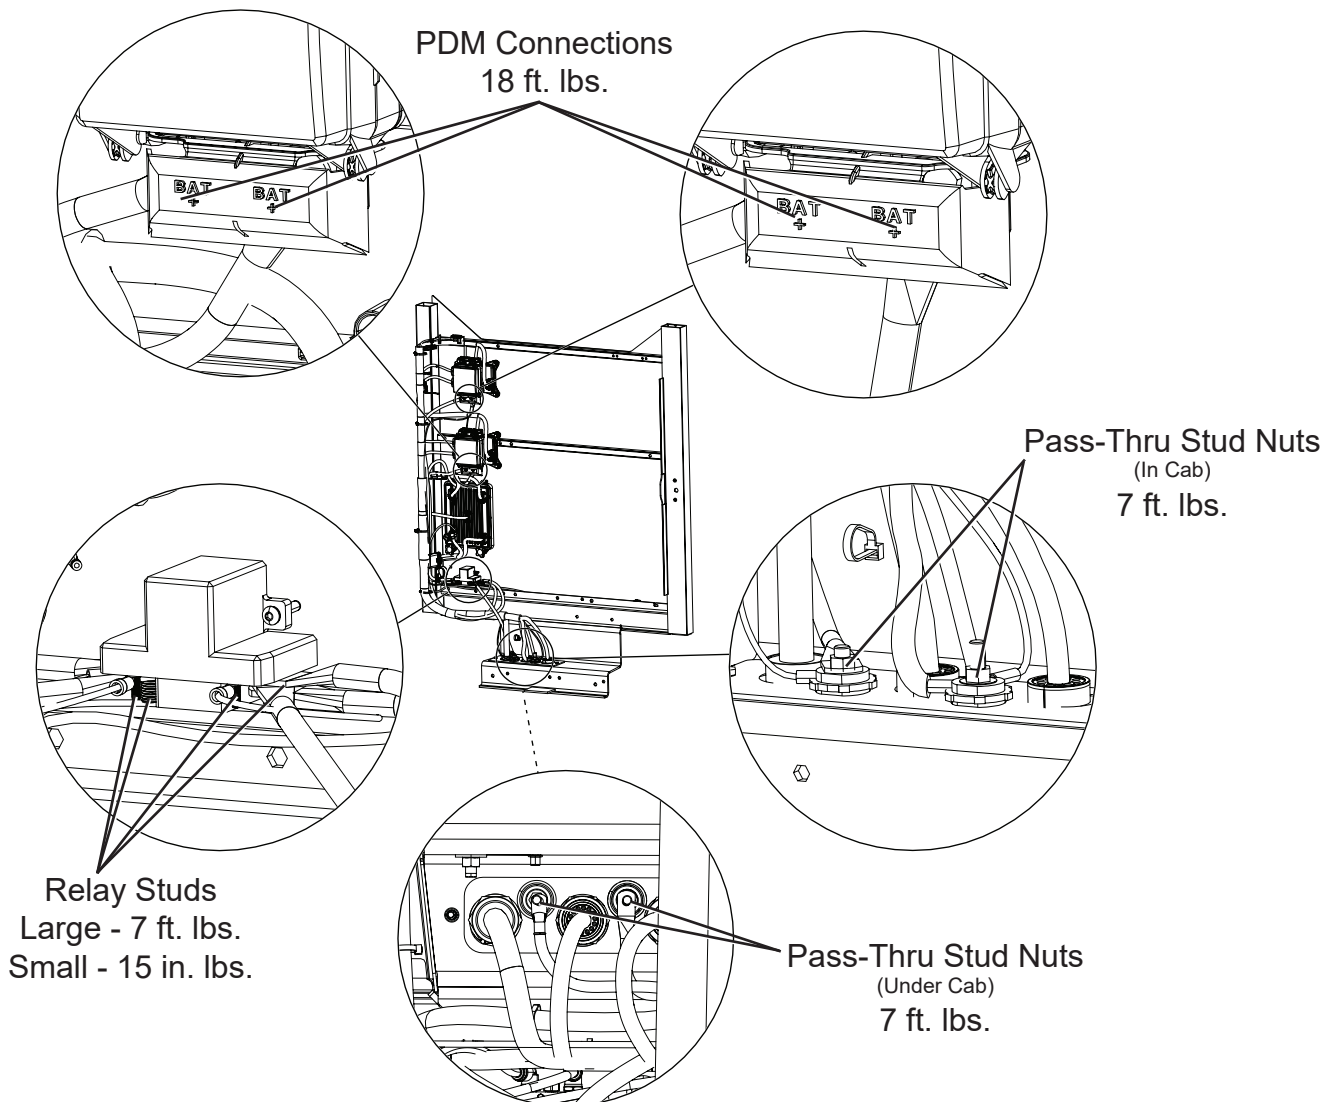

Figure 1
3. Check the power distribution modules (PDMs), large cab relay, and cab pass-thru connector nuts (both inside and outside under the cab) torques. See Figure 1.